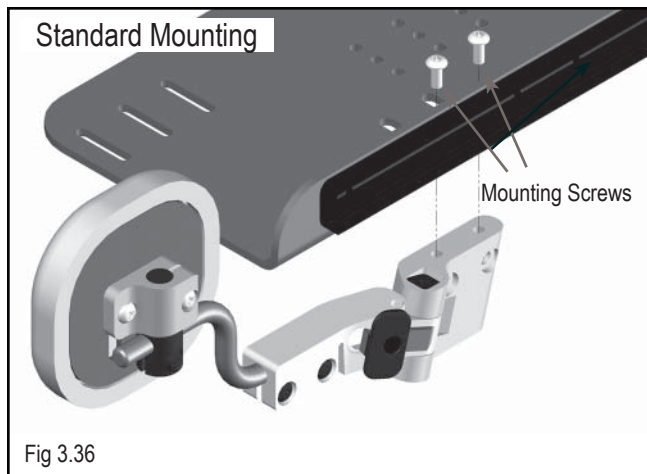

Fig 3.36
- Slide the arm pad to the desired position(Fig 3.36) and retighten.